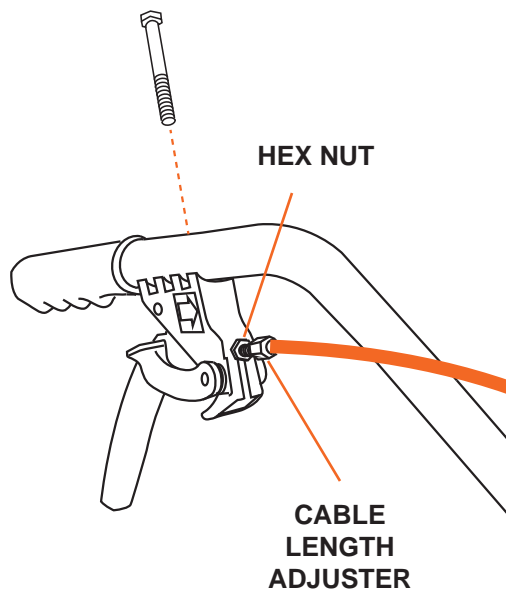

Figure 6
2. Push a threaded hex bolt through the top of the handlebar into the safety control lever and tighten securely (see Figure 6).